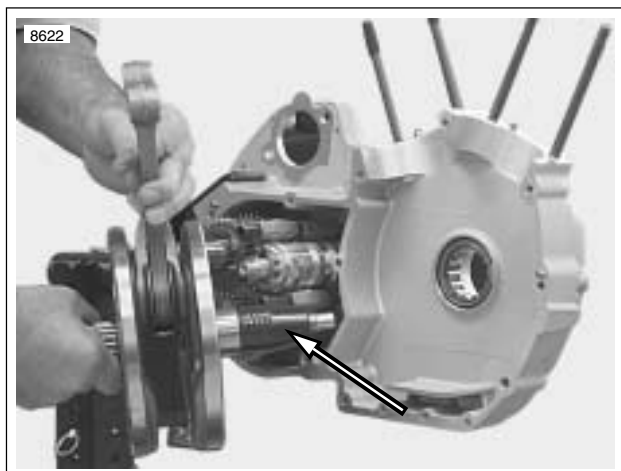

**Figure 6-87. Crankcase Fasteners**
- c. See Figure 6-87. Tighten 5/16-in. fasteners to 15-19 ft-lbs (20.3-25 Nm).